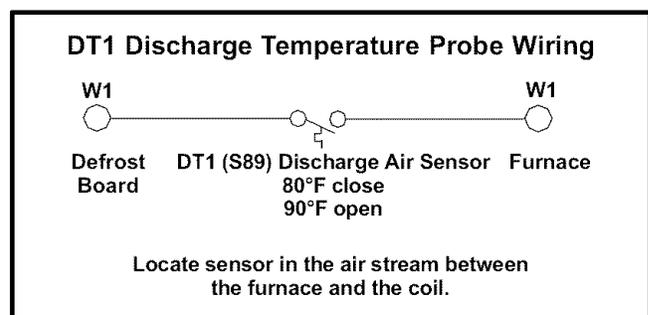

Figure 2
- 5- Using field-provided thermostat wire, connect the DT1 (S89) to the W1 terminal of the defrost board and W1 terminal of the furnace. See figure 2.